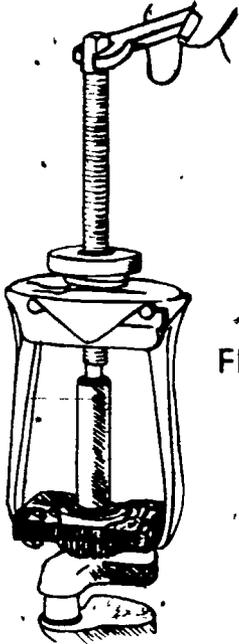

FIGURE 3
- d. Remove worn or damaged bearings (Figure 3)